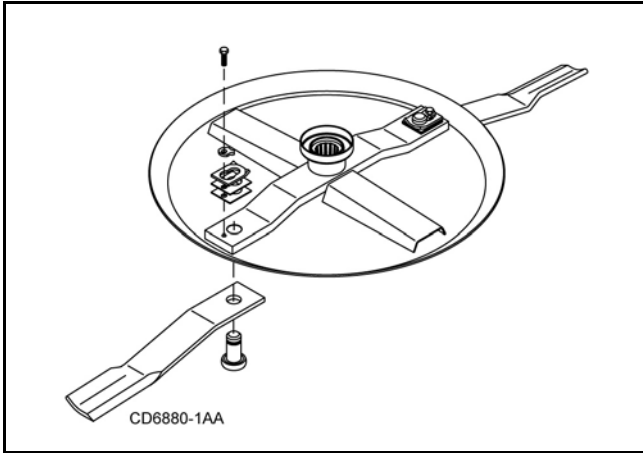

Figure 17. Blade Removal
2. Remove blades from crossbar as shown in Figure 17.